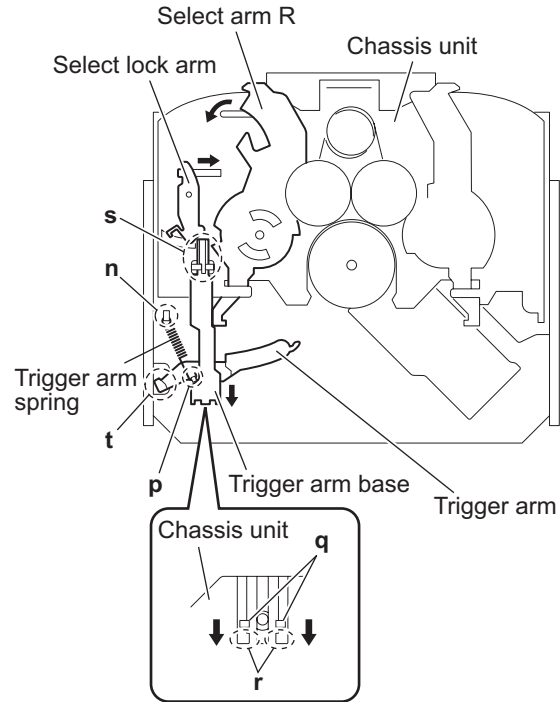

Fig.14
3.1.9 Removing the trigger arm (See Fig.14)